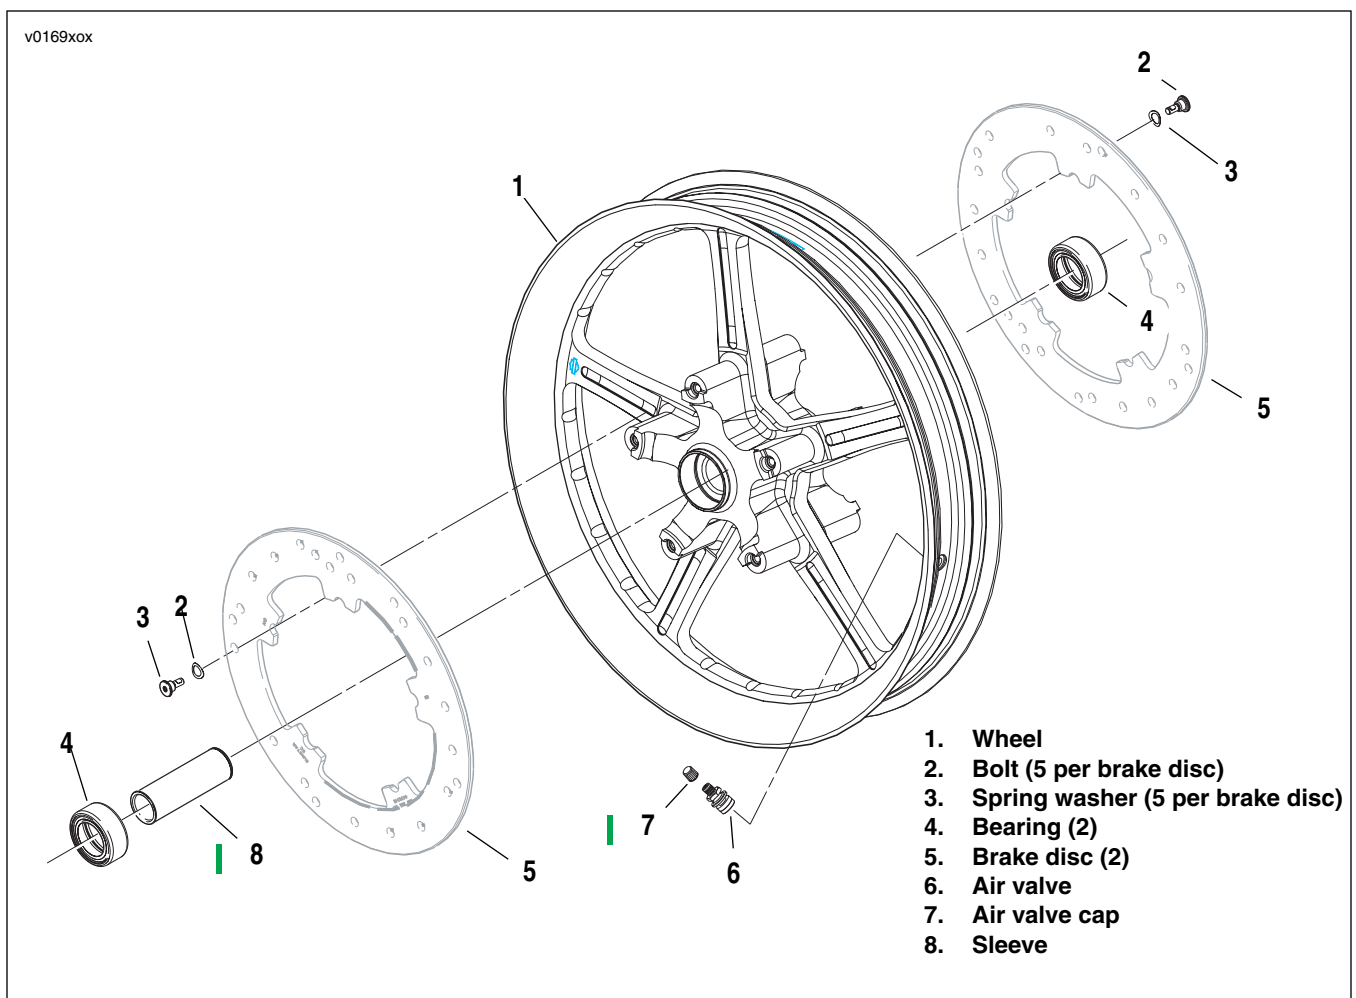

Figure 2-6. Front Wheel Components
5. See **Figure 2-6**. If removing brake discs (5), remove five bolts (2) and spring washers (3) securing brake disc to the wheel (1). Repeat procedure to remove disc on opposite side of wheel. Discard bolts and spring washers.
4. See **Figure 2-6**. If necessary, install brake discs in their original positions. Verify that brake disc is clean.
- a. On left side of wheel, install five **new** bolts (2) and five **new** spring washers (3) to attach left brake disc. Tighten bolts to 21-31 Nm (16-23 ft-lbs).
- b. On right side of wheel, install five **new** bolts (2) and five **new** spring washers (3) to attach right brake disc. Tighten bolts to 21-31 Nm (16-23 ft-lbs).